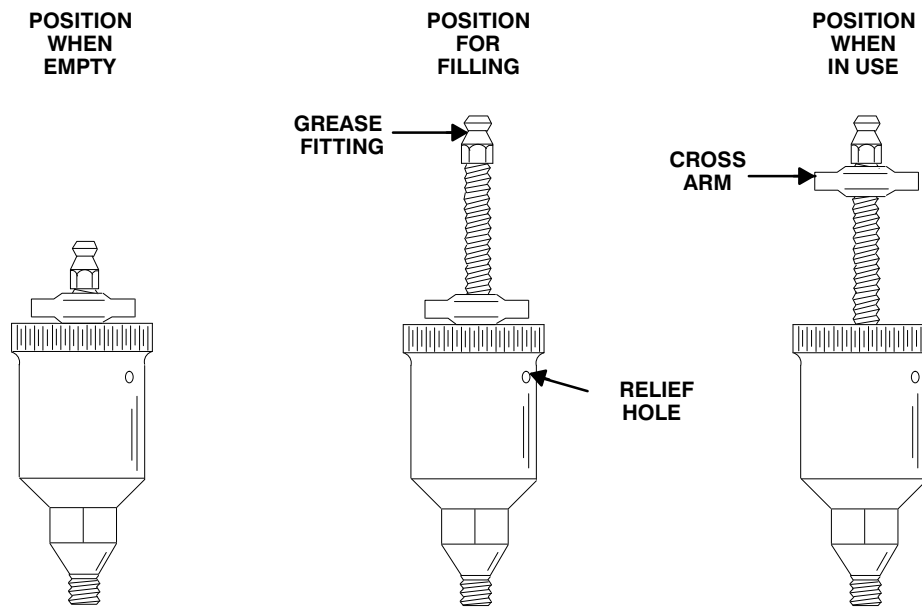

Figure 4. Automatic Lubricating Grease Cup
Before removing the impeller (12), turn the cross arm on the automatic grease cup (4) clockwise until it rest against the cover (see Figure 4). This will prevent the grease from escaping when the impeller is removed.
Fill the grease cup (4) through the grease fitting with No. 2 lithium base grease until grease escapes from the relief hole. Turn the grease cup arm counterclockwise until it is at the top of the stem; this will release the spring to apply grease to the seal (see Figure 4).